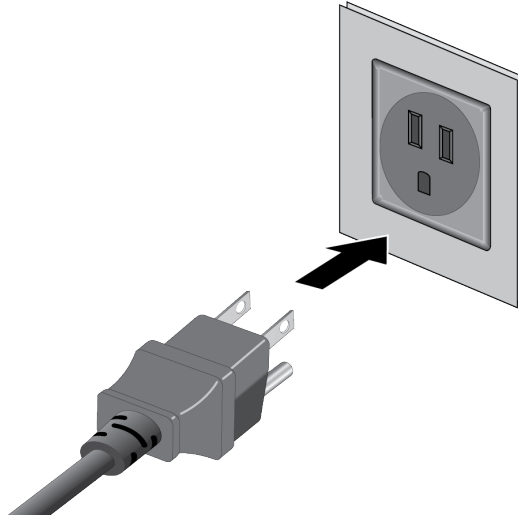

Figure 59. Plugging in the AC Power Cord to an AC Sources
5. Connect the power cords to appropriate AC power sources. Refer to Figure 59.